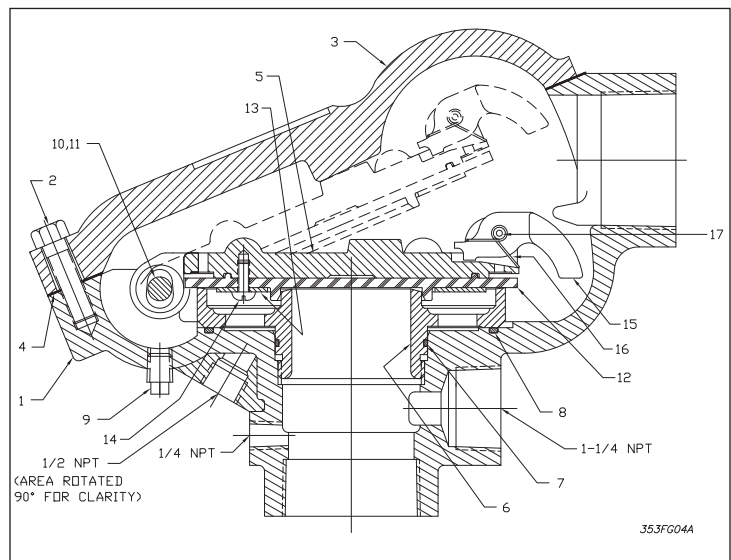

Fig. 4
5. Remove Drain Plug (Item 9 - Fig 4) to drain body of Dry Pipe Valve. Replace Drain Plug securely when flow of water has stopped.
6. Remove Cover (Item 3 - Fig 4) and raise Clapper (Item 5 - Fig 4) as far as possible. Thoroughly clean air and water seats making certain that they are free from scale, dirt, lint, etc. Inspect and clean or replace rubber facing. NEVER APPLY GREASE, COMPOUND, SHELLAC, OR ANY OILY SUBSTANCES TO SEATS OR RUBBER FACING.
8. Center the locating diameter of the Clapper Rubber Facing (Item 12 - Fig 2) around the water seat. The clapper (Item 5 - Fig 4) should sit flat and with a minimum of movement when the seating is correct. Pressing down on the clapper may help to accomplish the locating and seating of the clapper.
9. Replace Gasket (Item Item 4 - Fig 4 - Fig 2) and Cover (Item 3 - Fig 4) and uniformly tighten cover bolts (Item 2 - Fig 4).
Refer to Fig. 4.